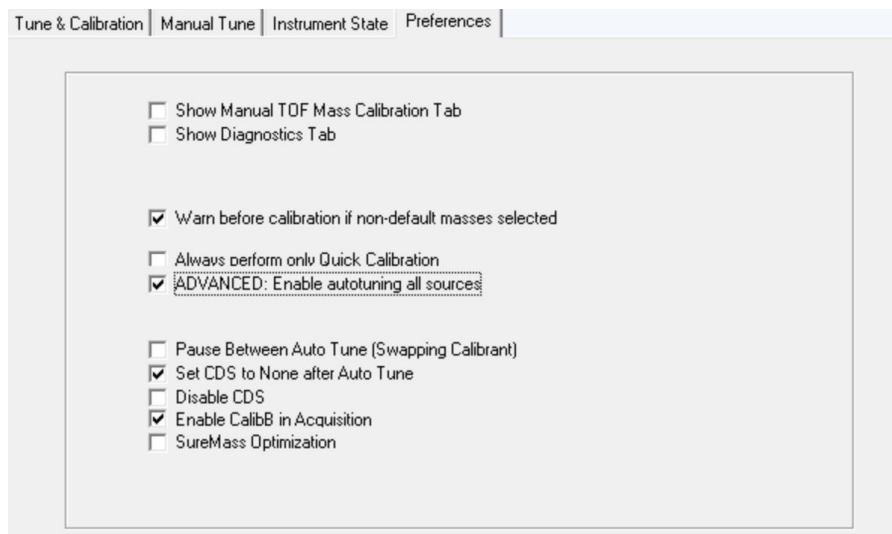

Figure 3. Preferences tab for Q-TOF models other than the 6546
The Preferences dialog box appears (**Figure 3**).
- 1 If needed, mark other preferences for tune and calibration in the **Preferences** tab. (See **Figure 3** on page 6.)